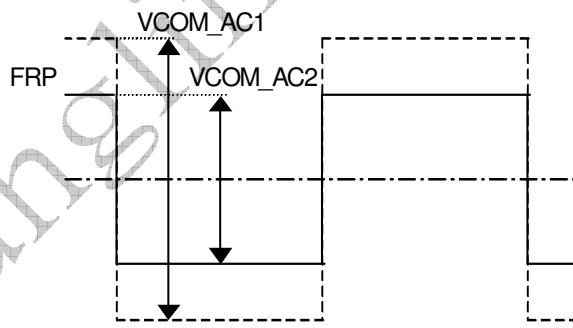

**Fig. 5 Illustration of Serial Command Operation**
- The serial control block is operational after power on reset, but commands are established by the VSYNC signal. If command is transferred multiple times for the same register, the last command before the VSYNC signal is valid. Please refer to Fig. 5.